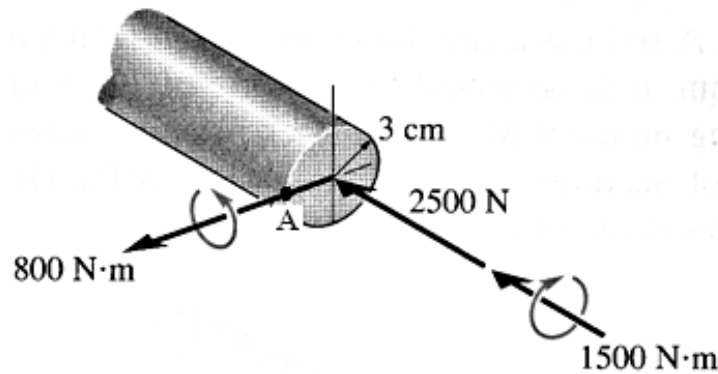

Figure Q4[b]
**[b] Figure Q4[b] shows a 6 cm-diameter drive shaft used in a turbine. The shaft experiences internal loadings, which consist of an axial force of 2500 N, a bending moment of 800 N.m, and a torsional moment of 1500 N.m.**